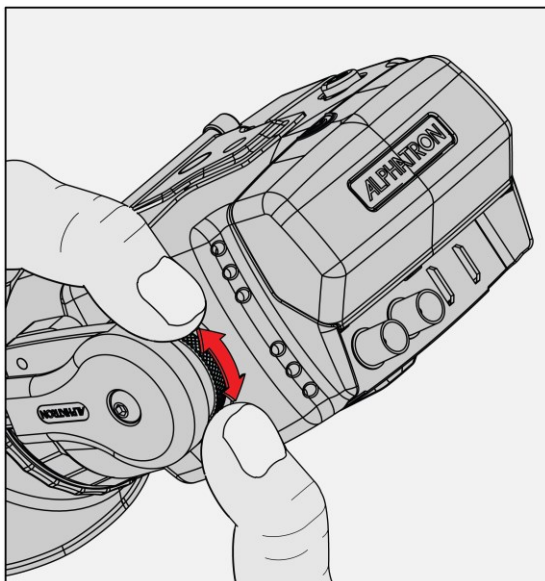

Figure 7: tighten (clockwise) or loosen (counter-clockwise) the EVF.
When the EVF is positioned correctly please rotate the thumbscrew (E) clockwise (as viewed in “figure 7”) to tighten. To unlock please rotate the screw counter-clockwise.